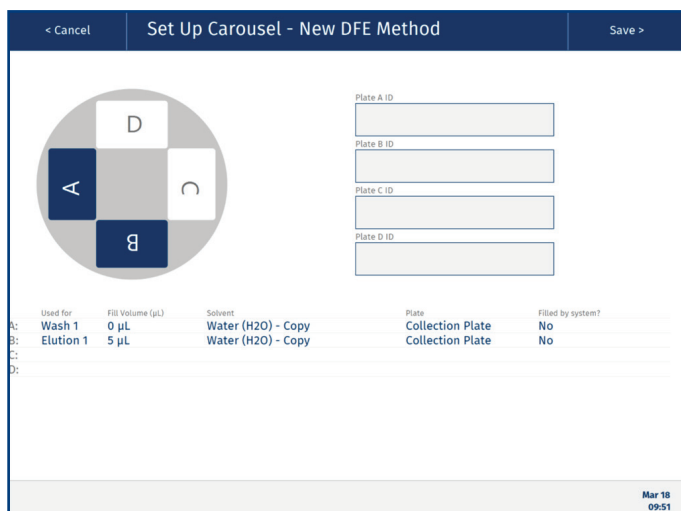
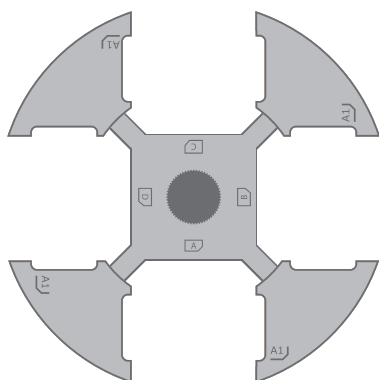

Figure 46. The Set Up Carousel view when setting up a DFE run on an Extrahera LV-200 system.
Figure 47. Ensure that the collection plates are loaded correctly into the carousel. Note the location of the A1 position of the plate.
29. Load the 96-well collection plate(s) onto the carousel as specified in the method; see the **Set Up Carousel** view (see Figure 46). Ensure to load them in the correct direction; see the location of the A1 position of the plate in Figure 47.
29. Load DFE carousel risers (P/N 416868SP), plates, and solvents (if applicable) into the carousel as shown in the **Set Up Carousel** view (see Figure 46):